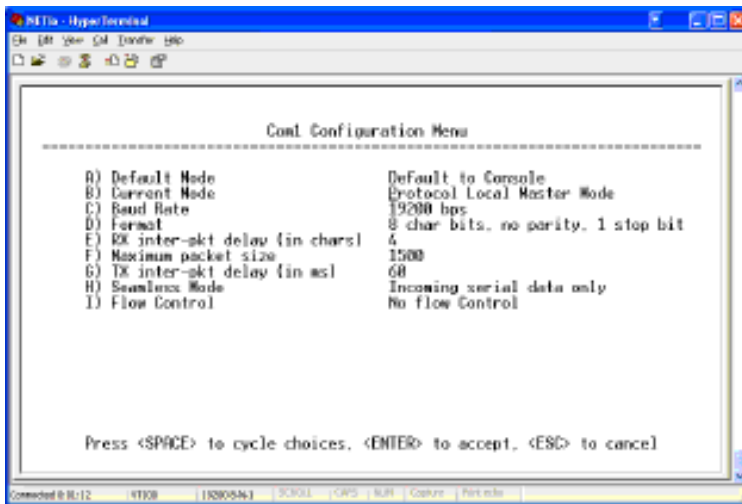

Figure 6-17. Com1 Configuration Menu
1. From the NETio Main Menu select **D** to reach the Com1 Configuration Menu shown in Figure 6-17.